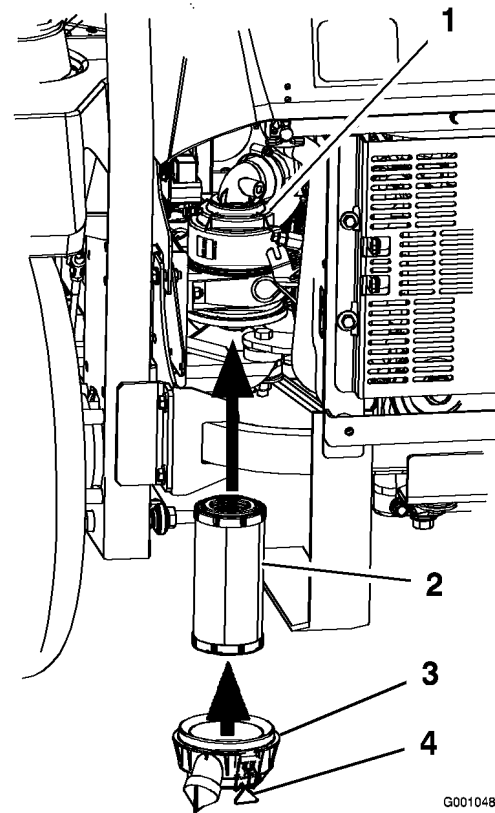

Figure 34
2. Carefully slide the filter into the filter body (Figure 34). Ensure that it is fully seated by pushing on the outer rim of the filter while installing it.
3. Install the air cleaner cover and secure the latches (Figure 34).